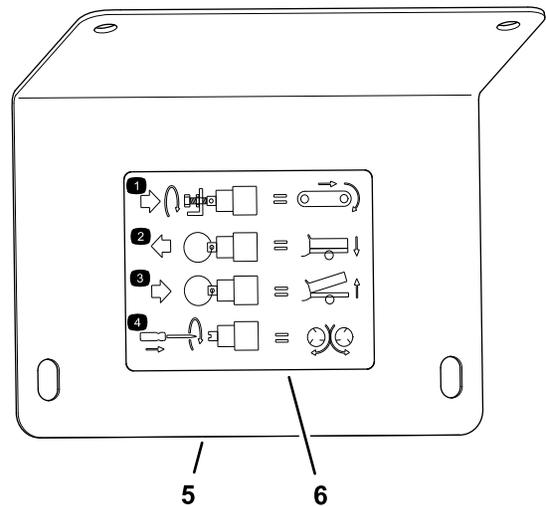

**Figure 32**
1. At the right side of the machine, remove the 4 flange-head capscrews that secure the cover plate to the override cover (Figure 32).